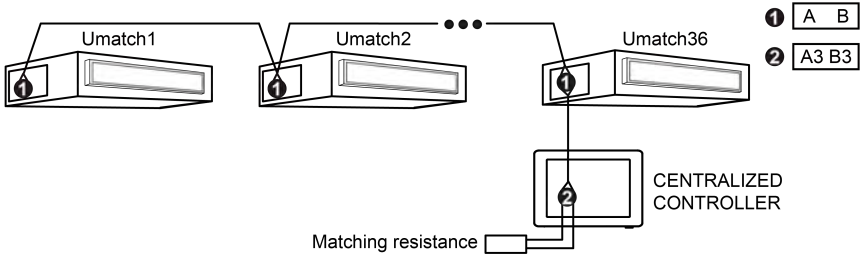

Fig. 3.7 Centralized Controller Connected with U-match Unit
- (1) The centralized controller is applicable to U-match units, One centralized controller can control up to 36 U-match units.
- (2) If the centralized controller is to be connected with U-match units which have COM\_BMS ports, connect according to fig.3.7. The controller must connect with terminal unit of U-match system. Connect the centralized controller's A3 and B3 ports to COM\_BMS port on the U-match unit correspondingly with communication cords. A matching resistance needs to be added with the communication cords at the A3 and B3 ports. There are two COM\_BMS ports (two core neilsbed and no polarity) on mainboard of U-match unit, one for centralized controller and another for U-match unit connection.